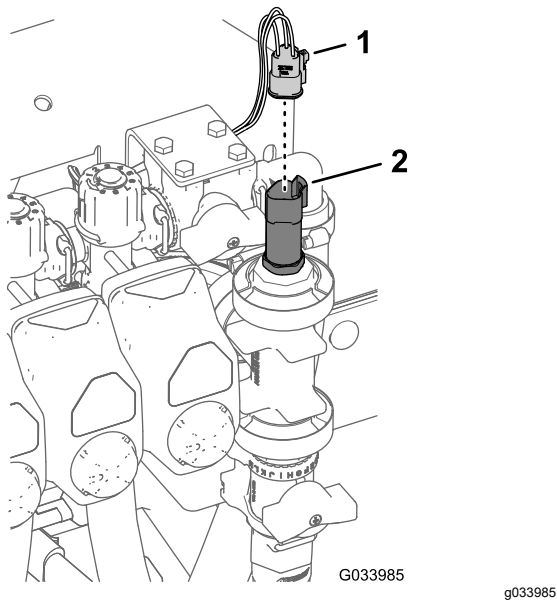

Figure 35
3. Assemble the control-valve bracket to the manifold mount (Figure 35) with 4 flange head bolts (6 x 16 mm) and 4 flange locknuts (6 mm); torque the bolts to 10 to 12 N·m (86 to 106 in-lb).
5. Connect the 3-socket connector for the pressure transducer (Figure 35).